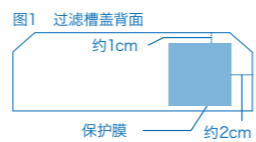

图2 水陆套装30的小瀑布部位
- ③Adjust the Flow rate controller to keep the running water level about halfway of Cascade spillway. (Fig. 2)
③旋转水陆套装30的流量控制阀, 调整小瀑布的水位至一半位置。(图2)